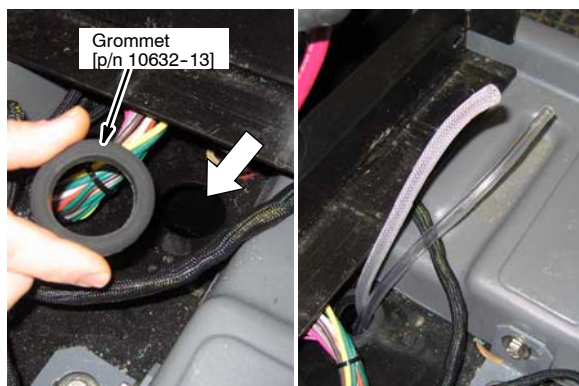

Fig. 30
1. Install grommet [p/n 10632-13] as shown and route the two *ec-H2O* hoses up through the hole as shown (Figure 30).